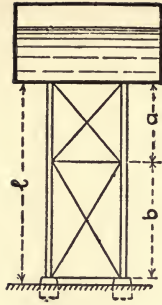

Fig. 7.
7. A water tank is carried upon four supports braced together in the manner illustrated in fig. 7. Assuming that the pillars are not encastered at their ends shew that instability will occur if  $P$  the thrust in a pillar reaches the value given by the equation